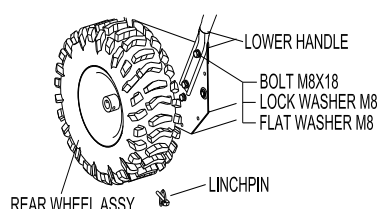

FIG 1
2.1.1 Remove the linchpin from each side and slide the wheel out far enough to install the bolts into the lower handle. Use the M8x18 bolt in combination with a M8 lock washer and a M8 flat washer, tighten into place. (FIG 1)
2.1.2 Slide the wheels back into the original position and replace the linchpins. (FIG 1)